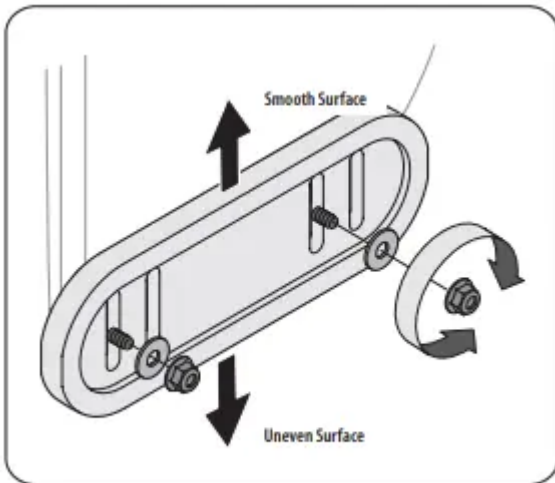

Figure 45
- For close snow removal on a smooth surface, raise skid shoes higher on the auger housing. Refer to Figure 45.
- Loosen the four hex nuts (two on each side), flat washers, and carriage bolts. Move skid shoes to desired position. See Figure 45.
NOTE: The skid shoes on your unit may look slightly different (and have different hardware) than ones shown in Figure 45.